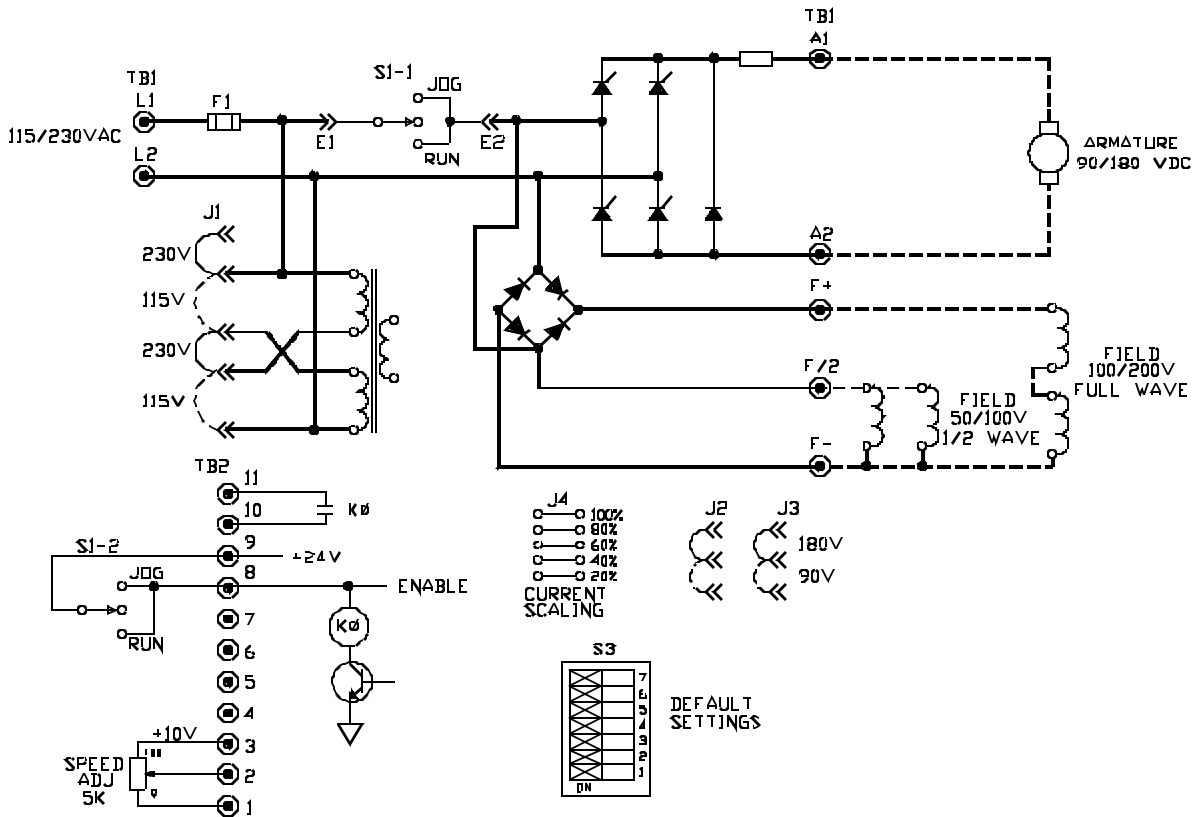
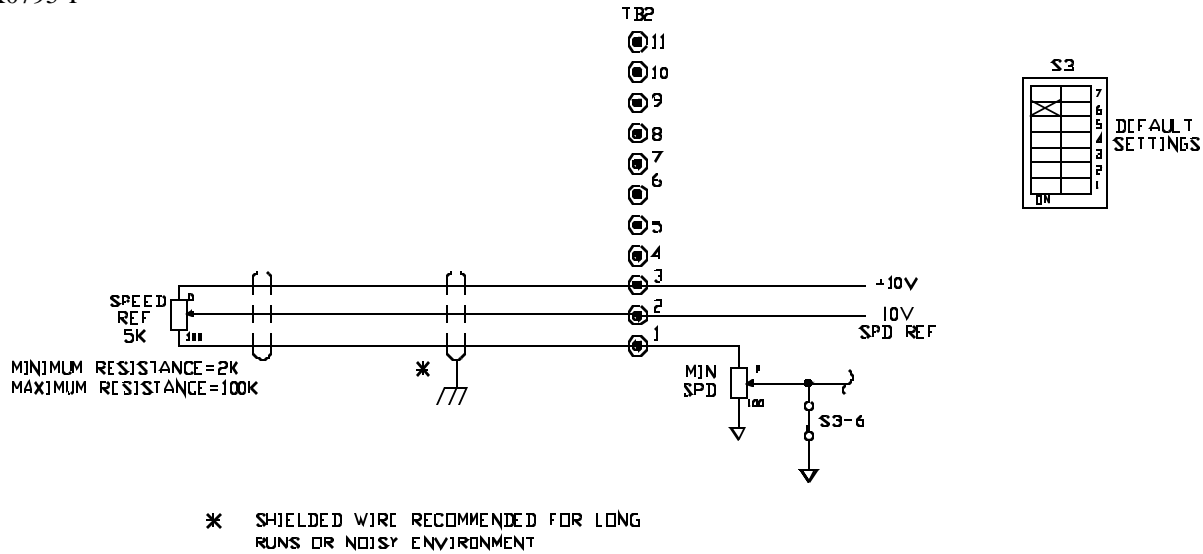

FIGURE 4. LOGIC CONNECTION DIAGRAM, RUN-STOP-JOG SWITCH, 1/6 - 2 HP
FIGURE 10. SIGNAL CONNECTION DIAGRAM, MOTOR SPEED POTENTIOMETER
4. If remote operator control wiring and/or signal wiring is required, connect the controller as shown in the appropriate connection diagram (Figures 4 through 18). Figures 4 through 9 show operator control connections, and Figures 10 through 18 show signal connections.
5. If remote operator control wiring and/or signal wiring is required, connect the controller as shown in the appropriate connection diagram (Figures 4 through 18). Figures 4 through 9 show operator control connections, and Figures 10 through 18 show signal connections.